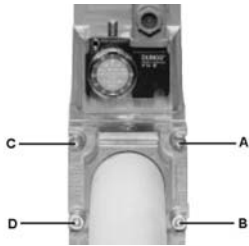

Fig. 10
1. Loosen screws A and B **do not** unscrew (Fig. 10 - Fig. 11).
2. unscrew screws C and D (Fig. 10 - Fig. 11).